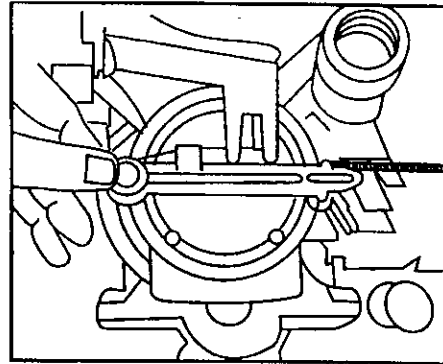

Fig. 16
3. Remove turbine control arm and spring assem. by depressing tab on turbine (Fig. 16).